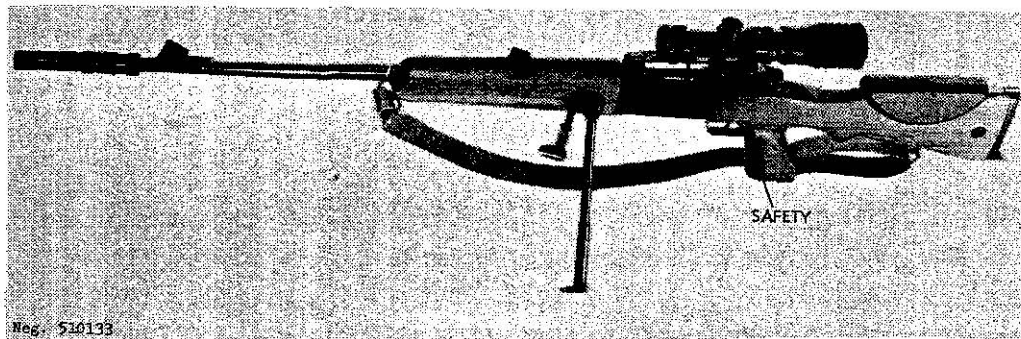
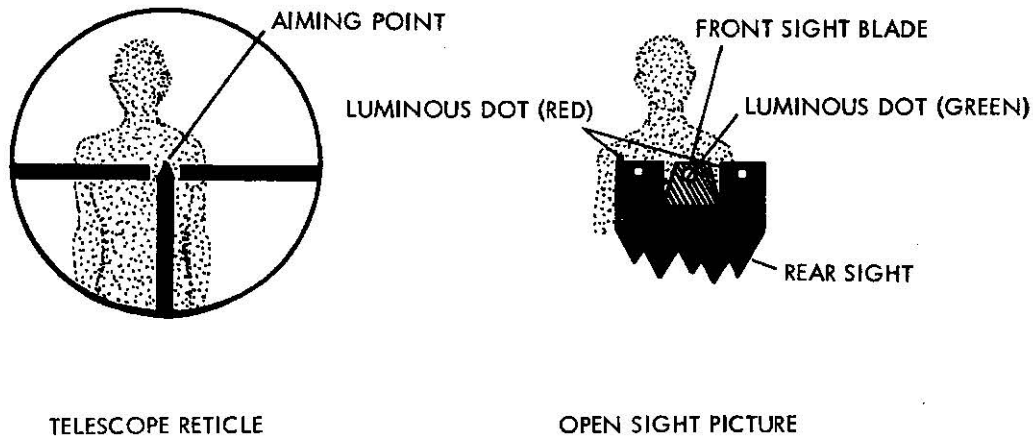

Figure 134. FR-F1, left side view.
Figure 136. Sight picture.
d. To prepare the rifle for firing, lift up the bolt handle (fig 133), pull it fully rearward, then thrust it forward and turn it down. CAUTION: The rifle is now ready to fire. To render the rifle safe, swing the safety down behind the trigger (fig 134). To fire: (1) swing the safety to the left, (2) aim (fig 136), and (3) press the trigger. To reload: (1) lift up the bolt handle, (2) pull it vigorously rearward, and (3) thrust forward and turn it down. The rifle is now ready to fire another shot. When the last cartridge in a magazine is fired, the bolt is blocked after it is drawn rearward and cannot be thrust forward until the magazine is removed or refilled.
evenly space all three dots, green in the center, and superimpose them on the target (fig 136).